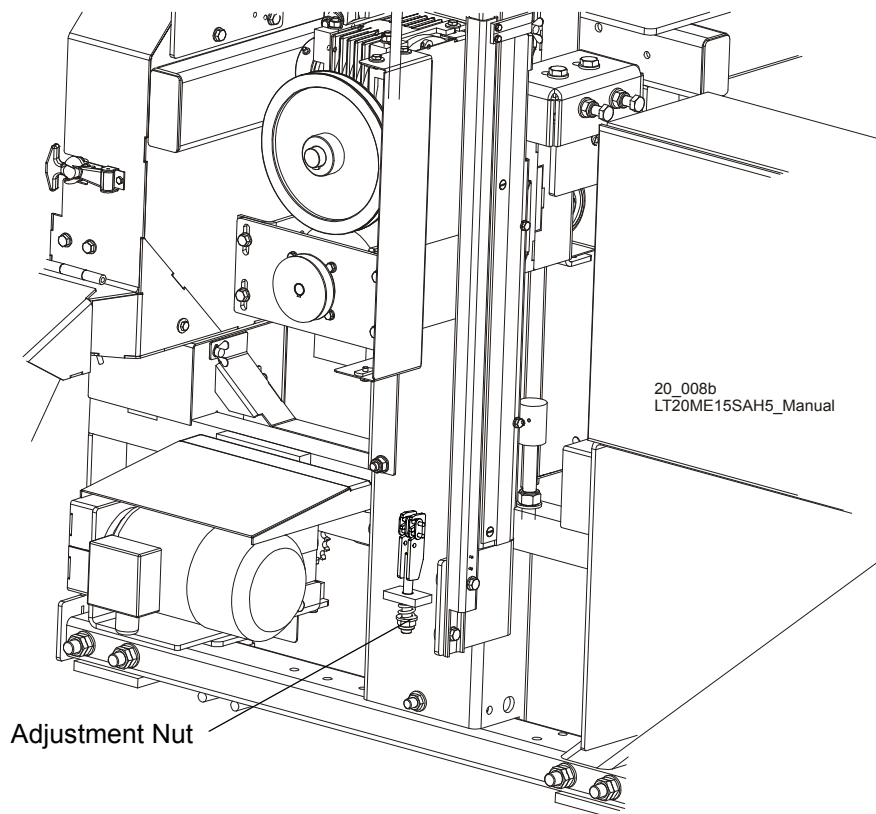

FIG. 4-7
1. Adjust the up/down chain tension as needed. Measure chain tension with the cutting head all the way to the top of the vertical mast. Secure the carriage with a chain at the top, or shim it underneath. Using the adjustment nut shown in Figure 4-7, adjust the chain tension so that there is 1" (2.5 cm) deflection in the center of the chain with a 5 lbs. (2.3 KG) deflection force.
See Figure 4-7. Use the adjustment nut shown below to tension the chain.